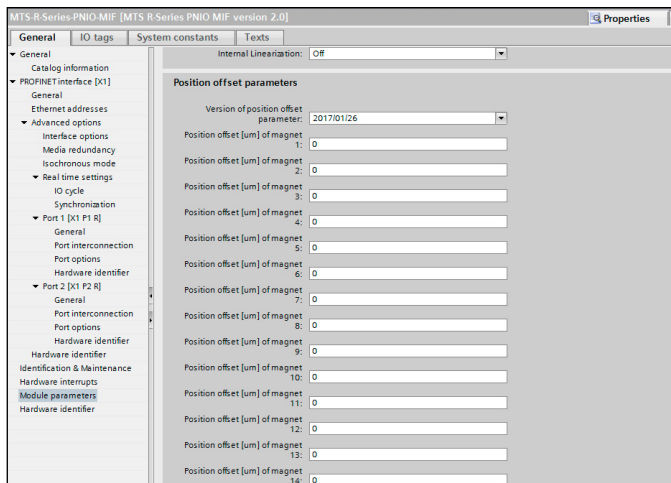

Fig. 79: Setting of the offset
- **Offset:** In the subsection “Position offset parameters” you can set the offset, a shift of the measurement range start, separately for each magnet – independent of further magnets on the sensor rod/sensor profile (Fig. 79). You can set the values with a step size of 1 µm in the range between -214...+214 m.